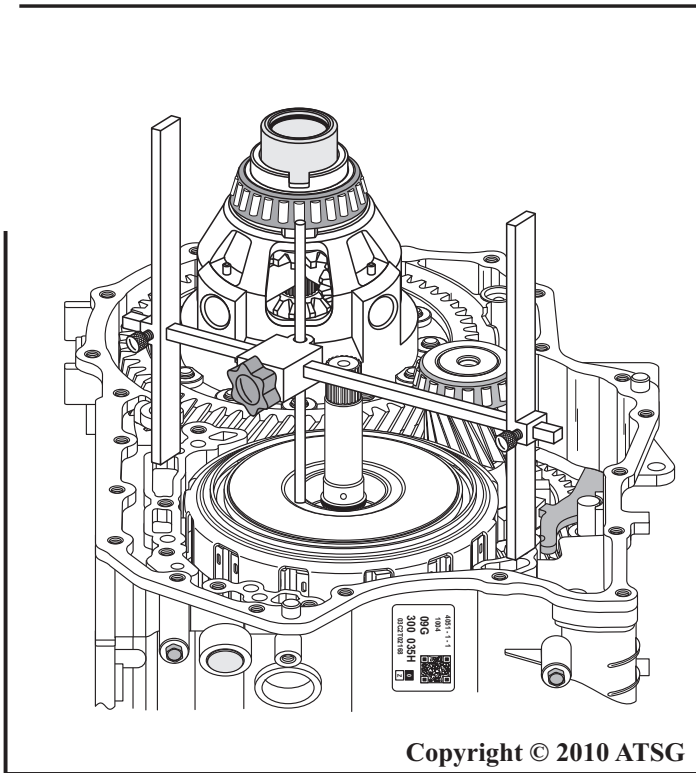

Figure 185
46. Install "H" gage on transaxle pump surface, as shown in Figure 185, lower the adjustment rod to the surface of the number 1 thrust washer on the K3 clutch housing and tighten adjustment rod locking knob.